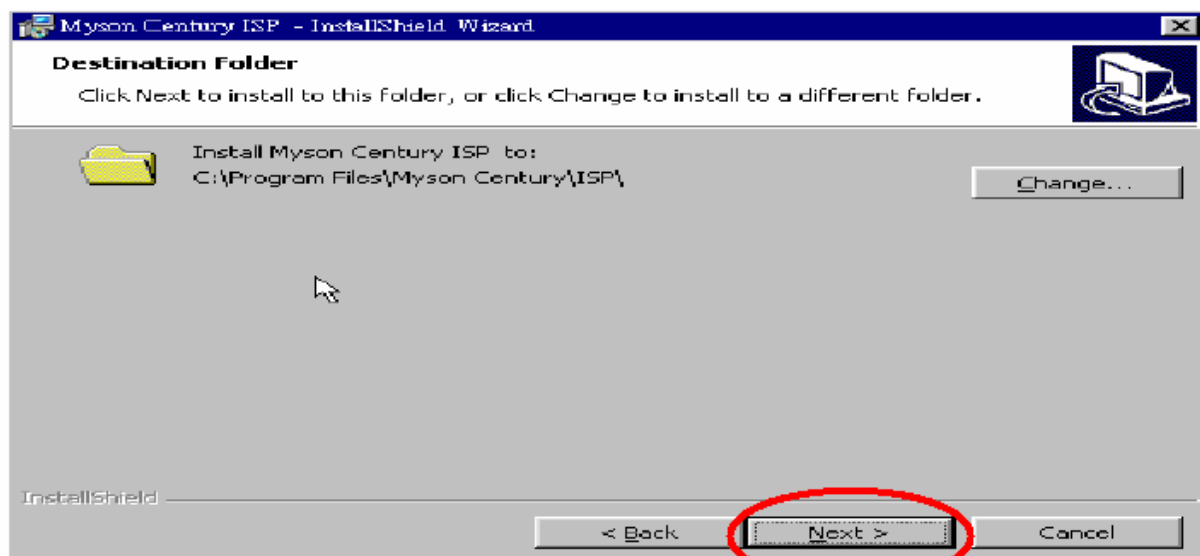

Fig 1.4
1.4 Keep default setting or press “ Change “ button for selecting the path that you want , and then press “ Next “ button to continue , see Fig 1.4 .